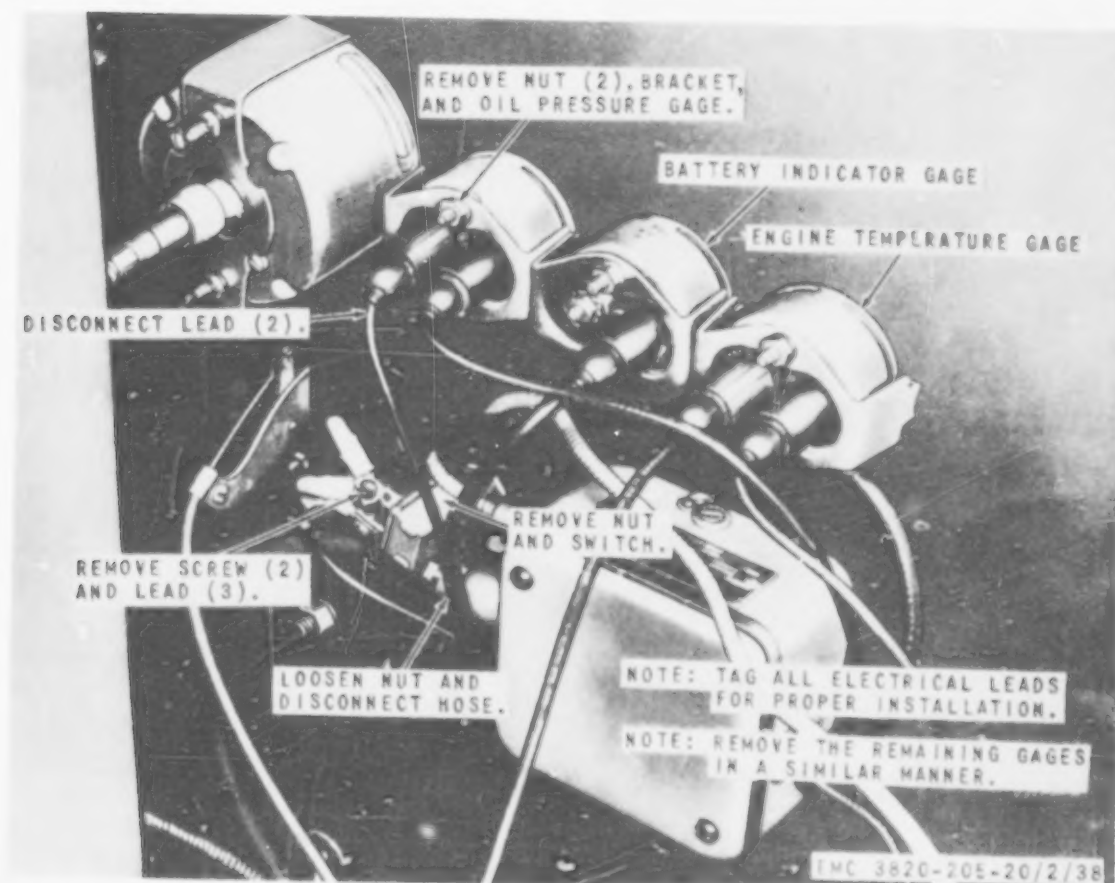

Figure 37. Gages and switch, removal and installation.
- (5) Install the cover band on the starter in reverse of the instructions on figure 37.
- (1) Remove the oil pressure gage from the instrument panel as instructed on figure 37.
- (2) Install the oil pressure gage on the instrument panel in reverse of the instructions on figure 37.
- (1) Remove the water temperature gage from the instrument panel as instructed on figure 37.
- (2) Install the water temperature gage on the instrument panel in reverse of the instructions on figure 37.
indicator from the instrument panel as instructed on figure 37.
c. Installation. Install the battery generator indicator in reverse of the instructions on figure 37.
a. Removal. Remove the starting switch from the instrument panel as instructed on figure 37.
c. Installation. Install the starting switch on the instrument panel in reverse of the instructions on figure 37.
- (1) *Removal.* Remove the engine wiring from the engine as instructed on figures 37 and 41.
- (2) *Cleaning, inspection, and Repair.* Clean and inspect the engine wiring. Repair or replace as necessary.
- (3) *Installation.* Install the engine wiring in reverse of the instructions on figures 37 and 41.